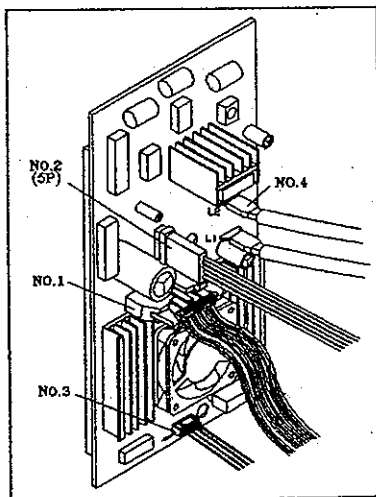

Fig. 2
- c. Make sure all connectors to the drive board are plugged in correctly and securely in place (see Fig. 2).